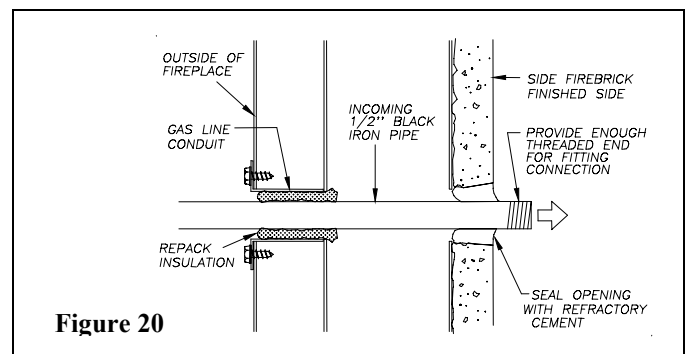

Figure 20
STEP 3: Run a 1/2 inch black iron gas line into the fireplace through the gas line conduit sleeve (if using a raised platform, add height). Provide sufficient gas line into fireplace chamber for fitting connection (see figure 20).